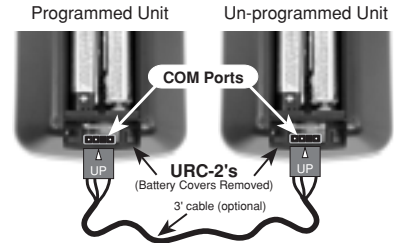
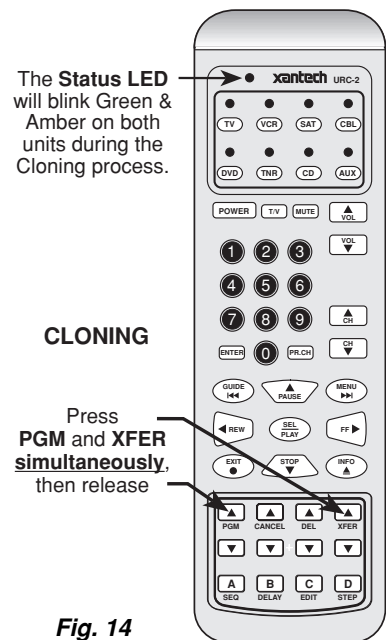

Fig. 13
Fig. 14
When you have finished programming and have checked all commands for proper operation, you are now able to copy (clone) the contents to other URC-2's, if desired. This will save you the tedium of repeated programming when you want identical commands in additional URC-2's. Refer to **Fig. 13** and proceed as follows:
1. Using a 3' COM Port cable (optional, see your dealer) , simply plug it into the **COM** Port of each unit as shown in **Fig. 13**.
2. On the programmed unit, press both the **PGM** and the **XFER** keys **simultaneously**, then release. Refer to **Fig. 14**.
The COM Port (**Fig. 13**), in addition to cloning, allows the URC-2 to be programmed using Xantech's optional DD4 Dragon Drop-IR™ system, with the ease and efficiency of your Windows®-based PC. Complete "virtual" programming of any configuration of the URC-2 (as well as the Xantech Smart Pad₃ and Waterpad keypads) is possible. All commands can be easily tested while still in the "virtual" stage, prior to transferring to a real URC-2.
To accomplish the transfer, you would simply plug a COM Port cable between the URC-2 and an LM110 or PM110 in the same manner as shown in **Fig. 13**. Be sure the LM110 or PM110 are powered. Then execute the transfer (clone) per **Fig. 14**.
- b) Repeat the **Cloning** procedure (**Figs. 13 & 14**).